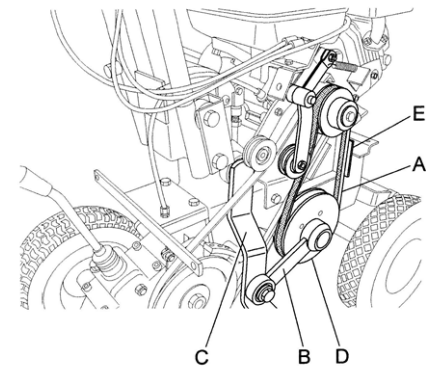

Fig. 7
Disconnect the connecting rod (Fig. 7 Ref. B) by removing the nut and loosening the screw that secure it to the arm (Fig. 7 Ref. C)
-Once the connecting rod has been disconnected the belt can be slipped off (Fig. 7 Ref. A) by manually turning the relative lower pulley anticlockwise (Fig. 7 Ref. D).
-Afterwards check that the belt is correctly positioned by using the relative blade control lever. When this lever is lowered and the belt is at maximum tension, the distance between the belt and the relative belt guides (Fig. 7 Ref. E) should be approximately 2 mm.